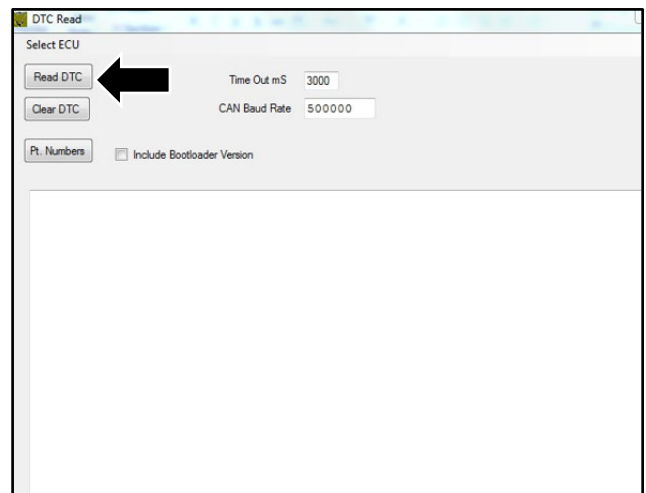

Figure 16
26. Select "Read DTC" (refer to Figure 16).